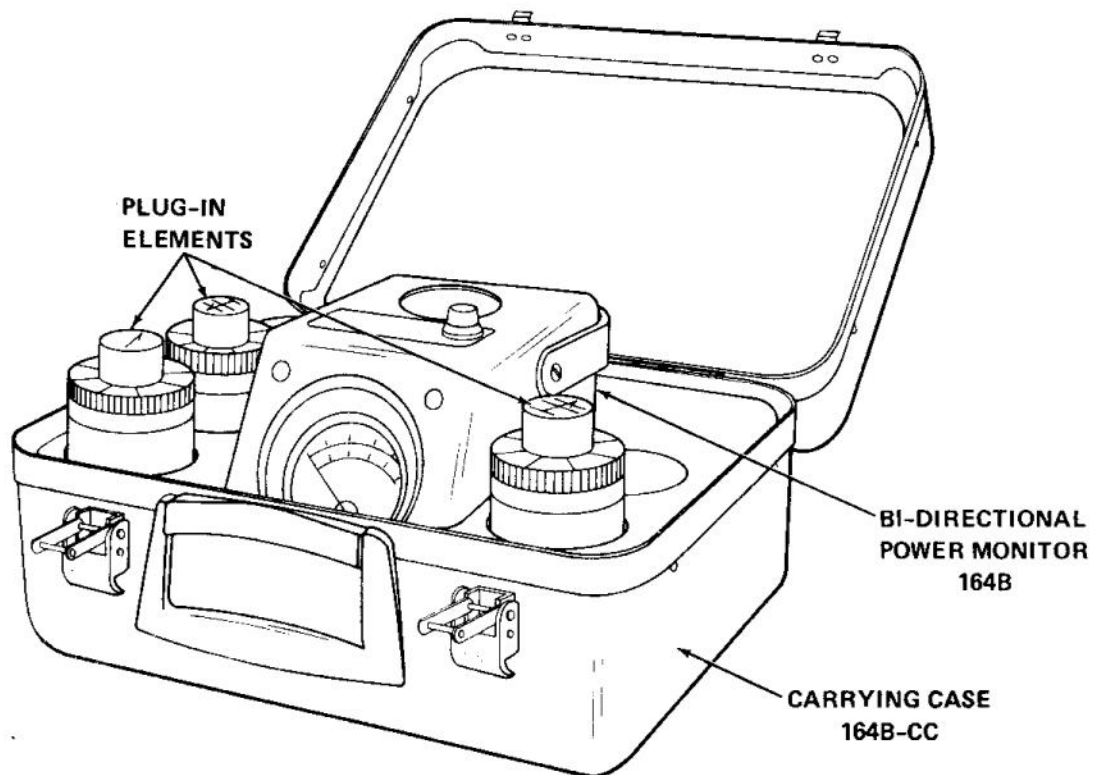

Figure 1. Sierra 164B-G3 Bi-Directional Power Monitor Set
1.01 This manual covers the Sierra 164B-G3 Bi-Directional Power Monitor Set. Included are description, specifications, operation, maintenance, and a replaceable parts list. The components of the Bi-Directional Power Monitor Set are as follows (see Figure 1):